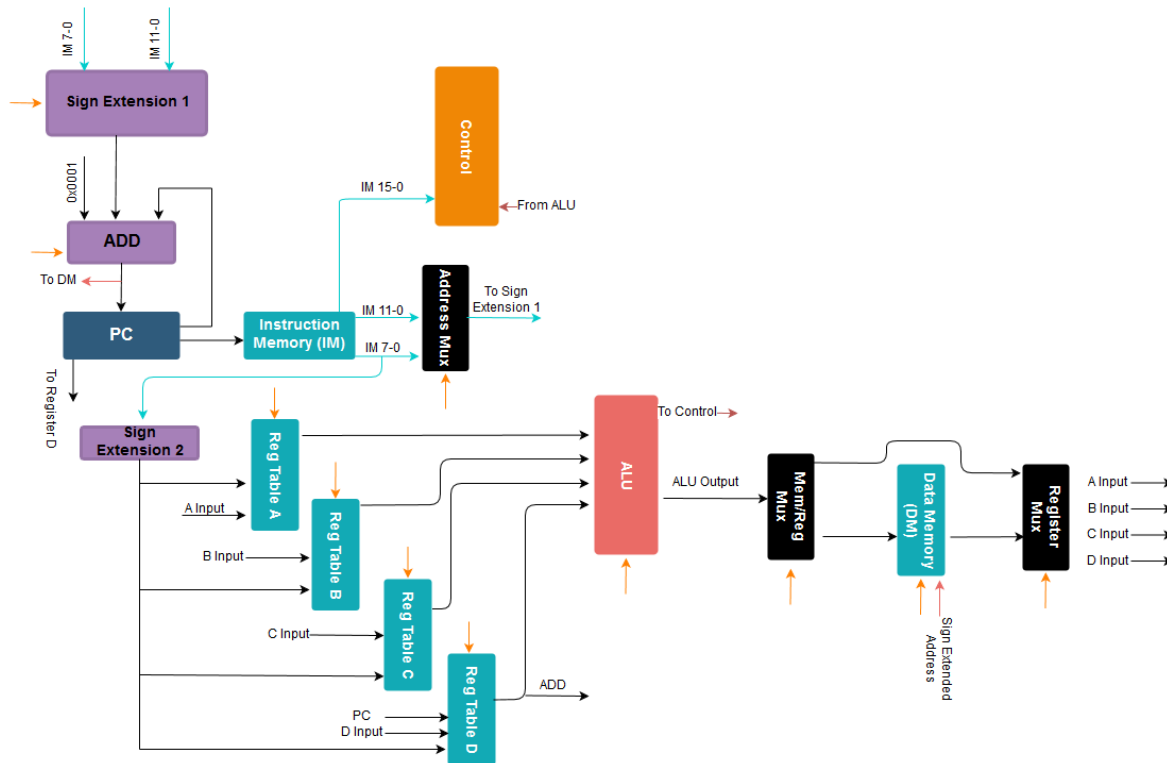

Figure 1: Niedzwiecki CPU Datapath Diagram
- The following will describe the datapath design for the of the CPU that accommodates the Niedzwiecki ISA. This processor is 16-bit and can execute 16 unique instructions which are specified by the 4 most significant bits in an instruction bit-sequence. These four bits feed into an instruction control circuit which enables almost every other circuit in the processor. Figure 1 below shows a block diagram detailing how each of the CPU's components connect.
Each of the modules in figure 1 in detail: